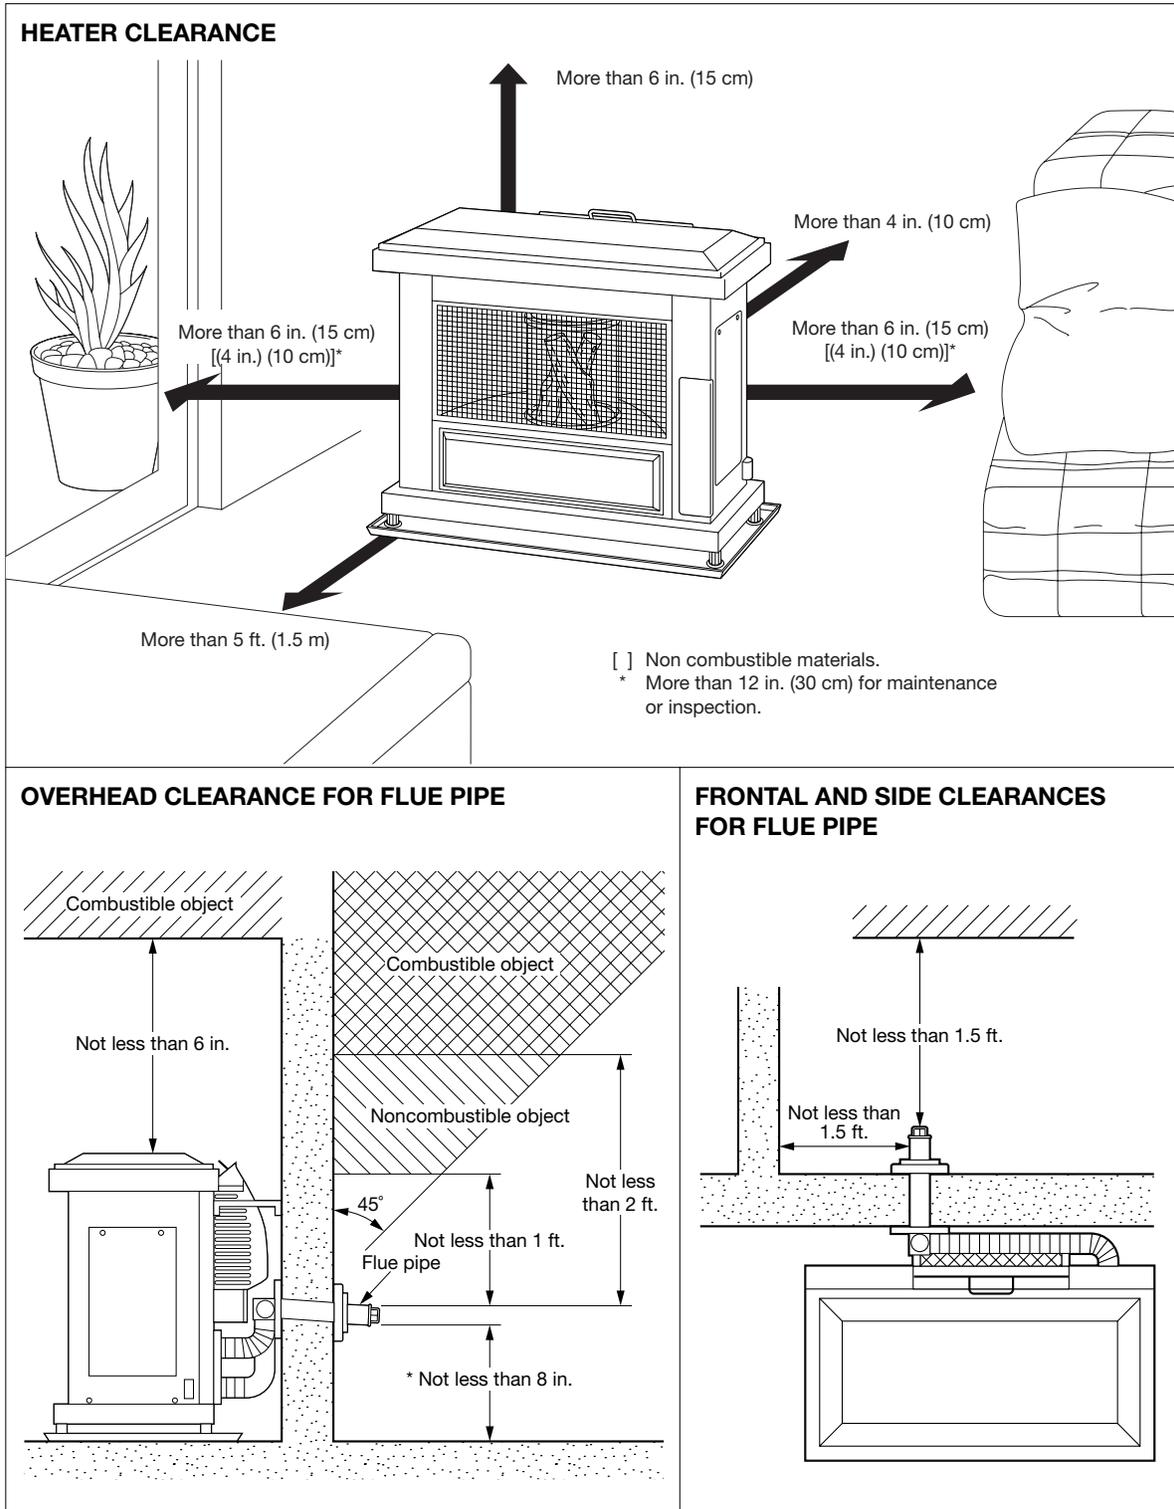

Figure 2-1 HEATER/FLUE PIPE CLEARANCE
Unless building or fire codes dictate otherwise, the Laser System can be placed on any floor surface (including carpeting or other combustible material) and provide safe operation. Check clearances as instructed in Figure 2-1.
- Do not install flue pipe in close proximity to other objects or materials. See Figure 2-1.